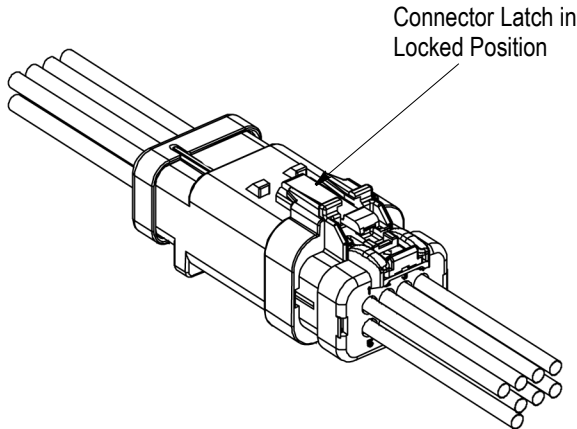

Figure 7
6. When all contacts have been locked securely in the assemblies, complete the connector system by mating the plug and cap or device until the connector latch is in the fully locked position. See Figure 7.